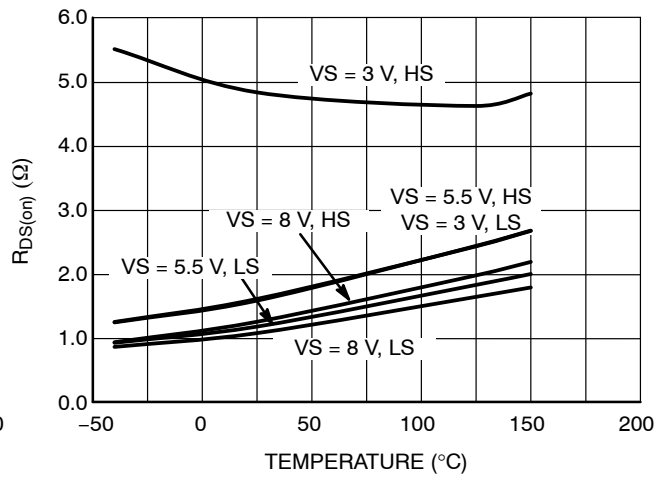

Figure 11. R_{DS(on)} vs. Temperature
8. Refer to Figures 11 and 14 for $R_{DS(on)}$ behavior.